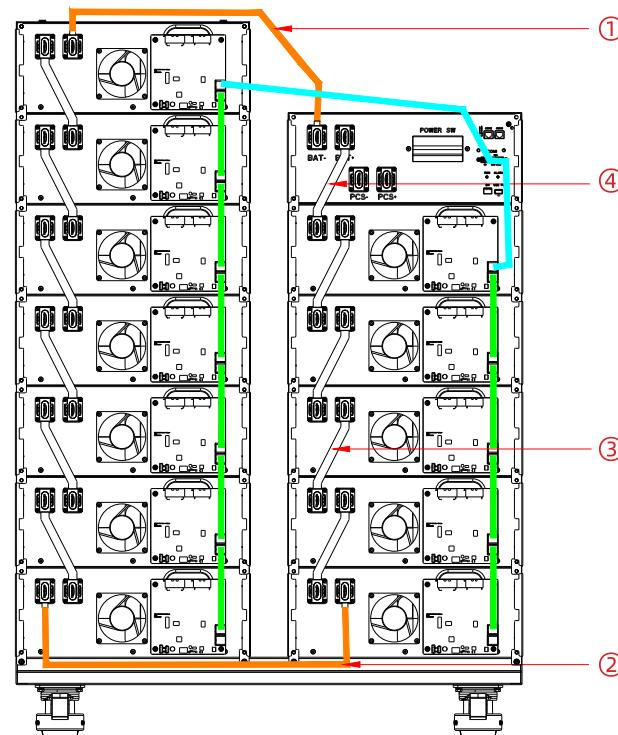

Figure-12 Battery cluster DC cable wiring diagram (picture is for reference only)
- 2). According to the wiring position of Figure-12, connect the No. 3 series DC copper bar to each cluster first, then connect the No. 1 serial DC cable, then connect the No. 4 serial DC cable, and finally connect the No. 2 cable.